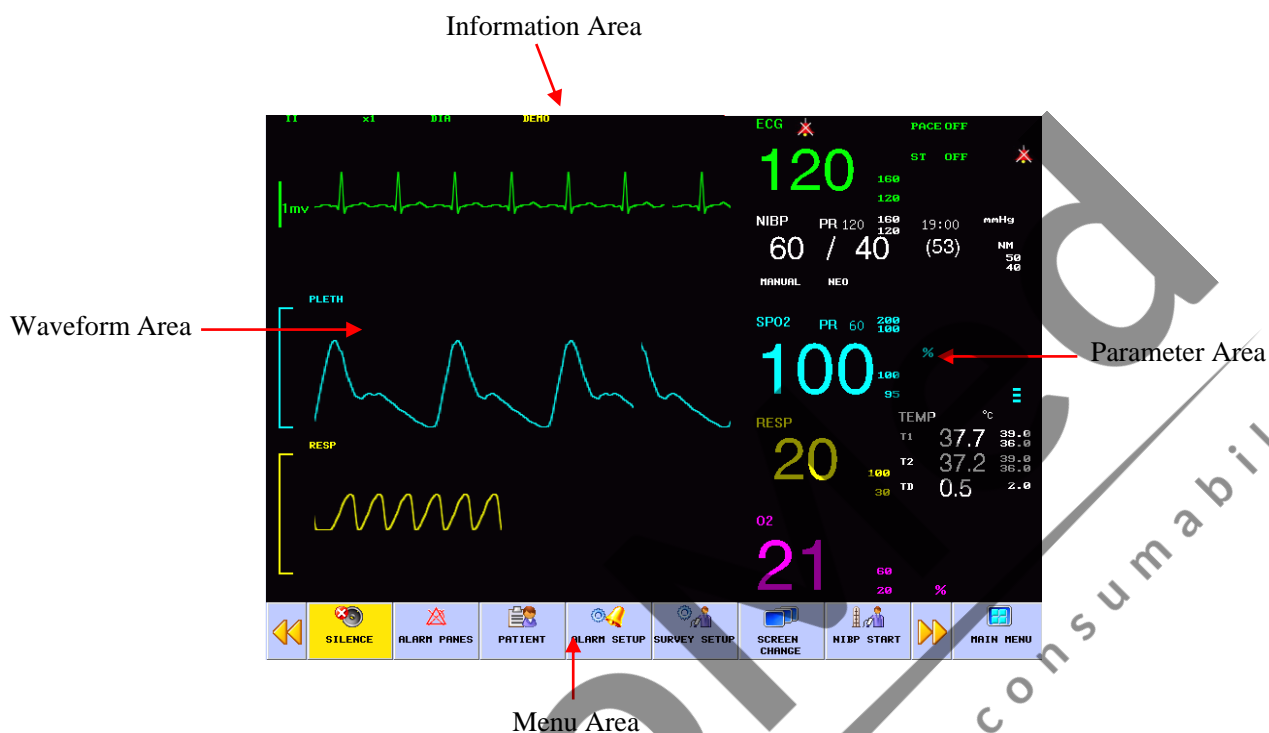

Figure 1-2 Main screen display
The main screen is divided into 4 sub-areas, i.e., Information Area ①, Waveform Area ②, Parameter Area ③ and Menu Area④ (As shown in Figure 1-2).